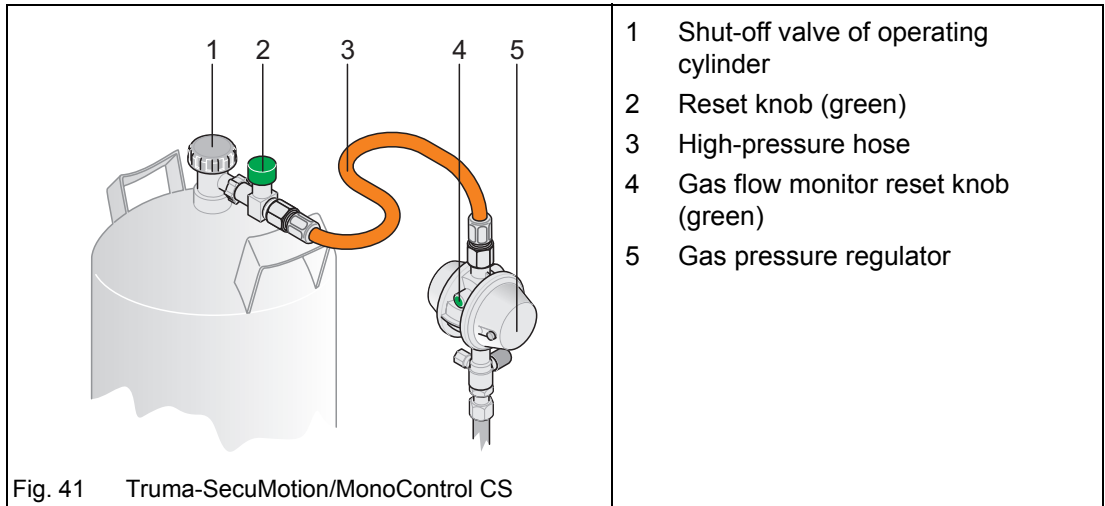

Fig. 41 Truma-SecuMotion/MonoControl CS
Do not kink or bend the high-pressure hose (Fig. 41/3) sharply!
- ➔ Open the shut-off valve (Fig. 41/1) of the full gas cylinder.
- ➔ Press the reset knob (green button) (Fig. 41/2) on the high-pressure hose (Fig. 41/3) firmly and hold it depressed briefly.
- ➔ Hold the gas flow monitor reset knob (green button) (Fig. 41/4) on the gas pressure regulator (Fig. 41/5) depressed for approx. 5 seconds.